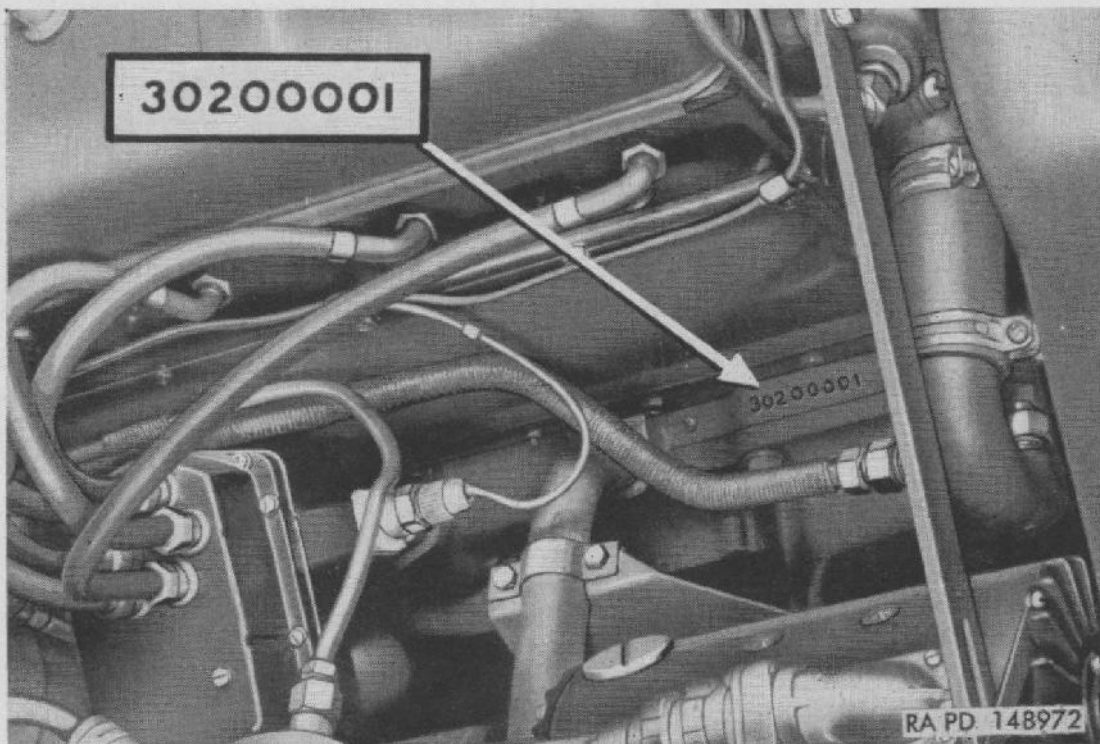

Figure 7. Location of engine serial number.
f. ENGINE SERIAL NUMBER (fig. 7). Manufacturer's engine serial number is stamped on plate mounted on boss on crankcase at right front of engine, directly behind generator.